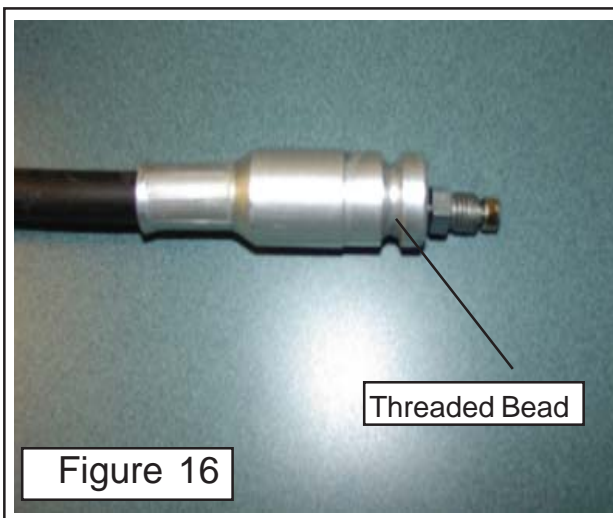

Figure 16
3. Then while holding the Handle to expose the Plunger Rod, thread the Threaded Bead of the Cable into the end of the Plunger Rod and tighten securely. Release the Handle, allowing the Cable to pull into the Control Stick Assembly (See Figure 16)